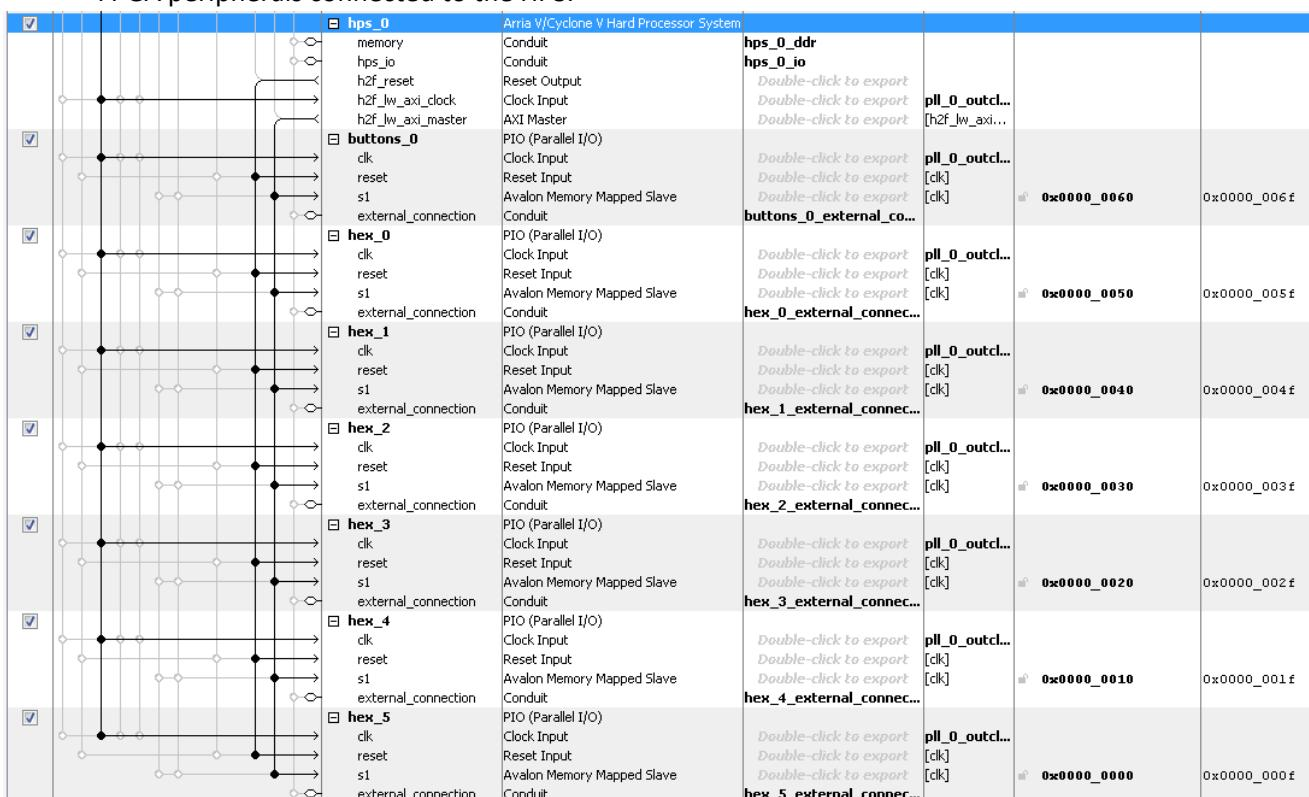

Figure 8-10. Adding Buttons and 7-segment Displays to the Lightweight HPS-to-FPGA Bridge
25. Connect the system as shown in Figure 8-10 below (we don’t show the full system to make figures hold on one page). Notice that we use “hps_0.h2f_reset” as the reset signal for the components connected to the HPS. This is a design choice so we can separately reset FPGA-only peripherals, and FPGA peripherals connected to the HPS.